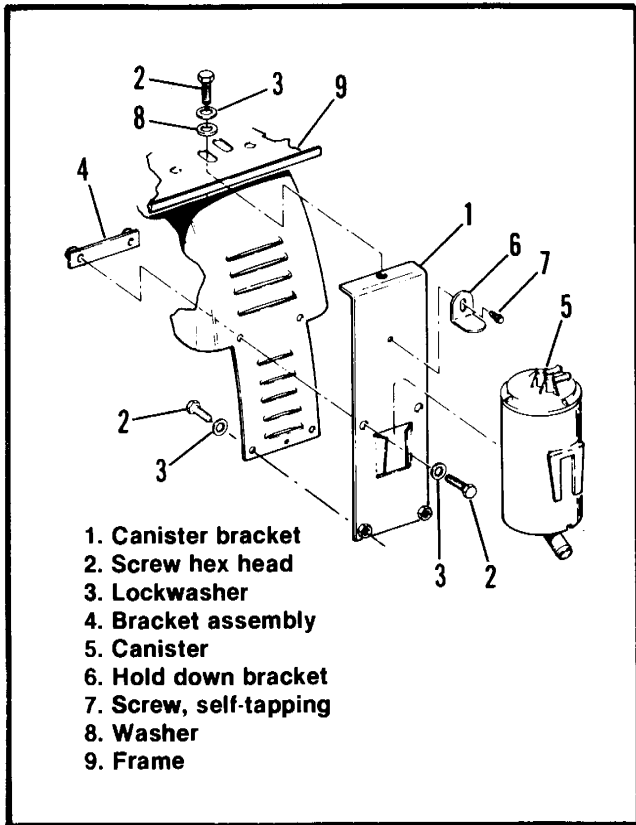

Figure 4-41. Canister Mounting
1. See Figure 4-41. Position canister bracket (1) so that holes in bracket align with holes in frame (9) and the holes in fender.
2. Place lockwasher (3) followed by washer (8) on screw (2). Insert screw (2) through frame (9) and thread into the nut welded to underside of canister bracket flange. Place two lockwashers (3) on two screws (2). Insert screws (2) through upper holes in bracket (1) and fender, then thread into nut plate (4). Place two lockwashers (3) on remaining two screws (2). Insert screw (2) through lower holes at backside of fender and thread into nut welded to front of canister bracket (1). Tighten all nuts and bolts securely.